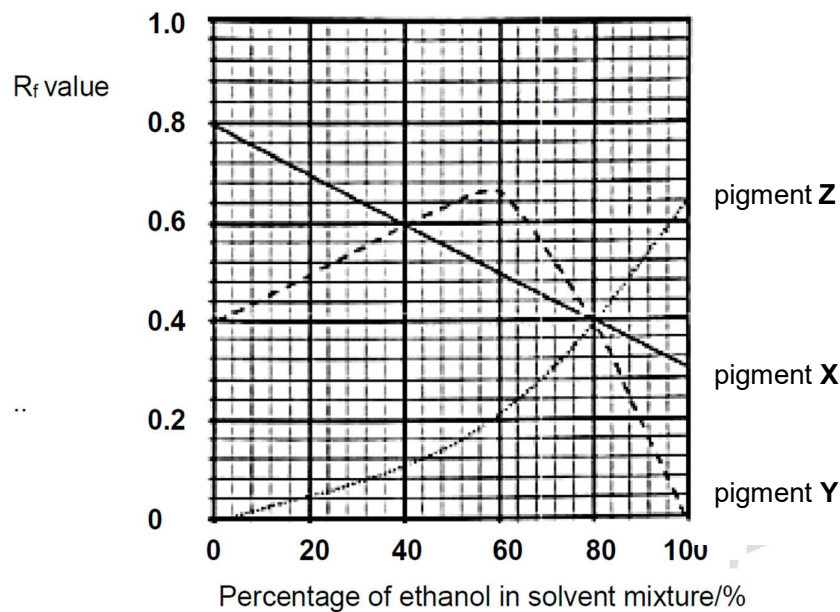

Fig. 3.1
Fig. 3.1 shows how the R_f value of the pigments varies with different compositions of ethanol.
- (b) (i) Using Fig. 3.1, state and explain the number of spots obtained from the chromatography using lavender flowers, when the solvent consisted of 40% ethanol.
- (ii) Using Fig. 3.1, explain why a pure solvent of water or ethanol is not suitable in separating the pigments effectively.